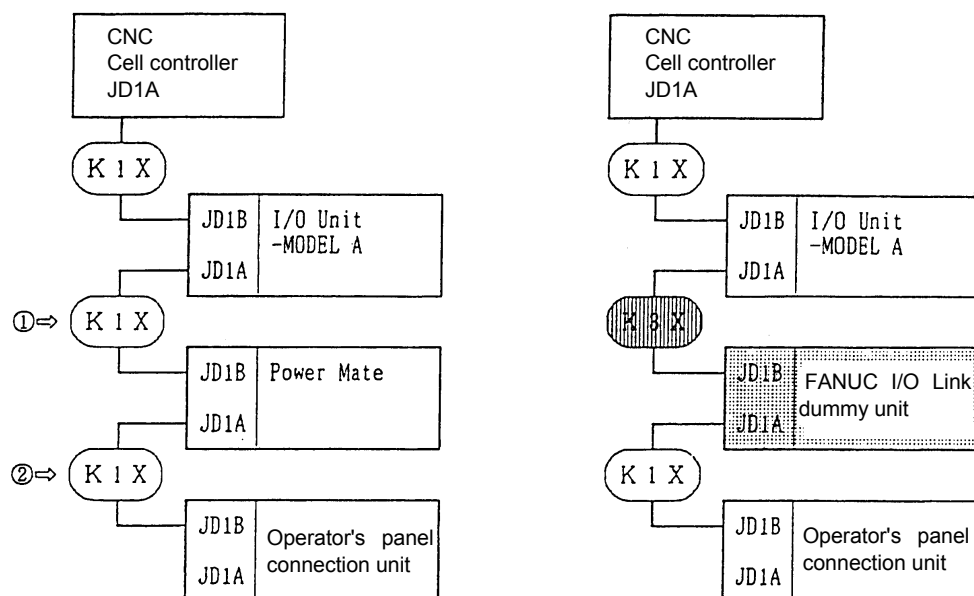

Fig. 11.8.1 Example of Using the FANUC I/O Link Dummy Unit (in Place of the Power Mate)
(1) Replacing a cable
The FANUC I/O Link dummy unit is supplied with power from the preceding or following group via a K3X cable. So, the K1X cable at either JD1A or JD1B of the dummy unit must be replaced with the K3X cable (① or ② in Fig. 11.8.1).